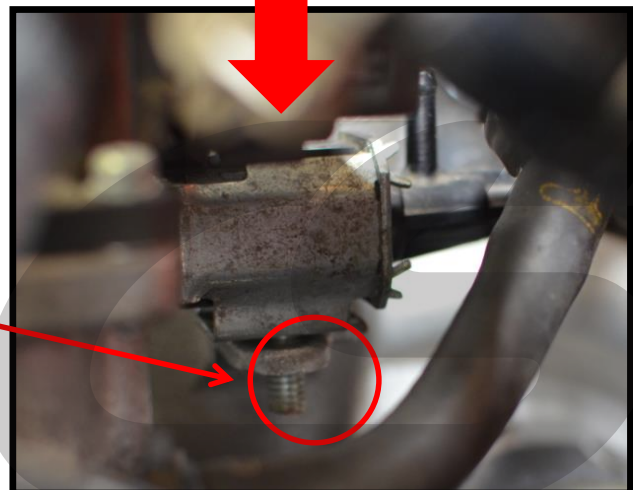

Figure 8b
- c) Remove the OEM EBCS. Using a 10mm wrench, remove the flange nut. Shown with the **red circle** in **Figure 8b**.